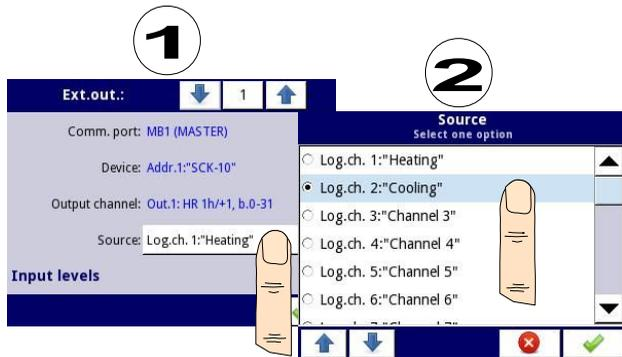

Fig. 7.94. Sample selection of **Source** for External output
- **Source** - this parameter allows to choose a source for an external output from the logical channel list (see Fig. 7.94),